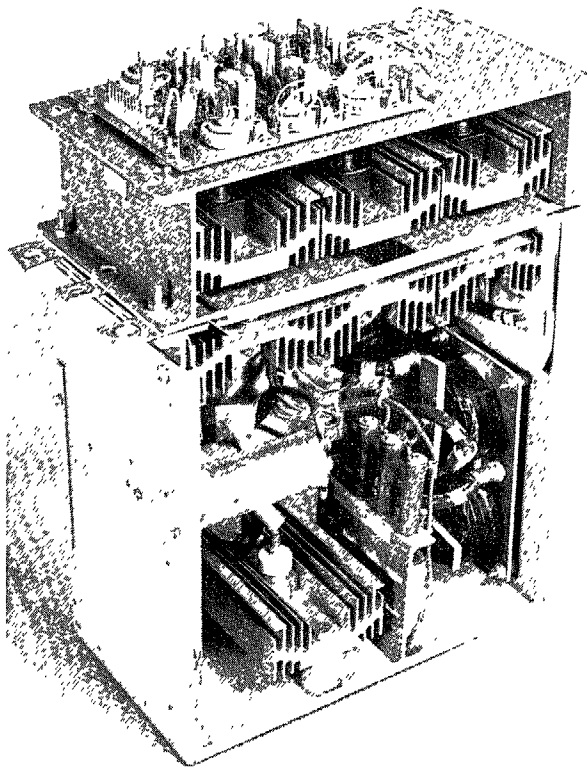

FIGURE 12
2. Stand the Converter Module on its backside on a 30" high table. The pulse transformer, printed circuit card should be on top (normally on the front of the module). See Fig. 12.
2. Stand the converter module on its back side on a 30" high table. See Fig 12.
3. Remove the P3 connection (anode) to the commutating diode (DC).
4. Remove the two bolts that secure the (DC) diode heatsink to the converter module.